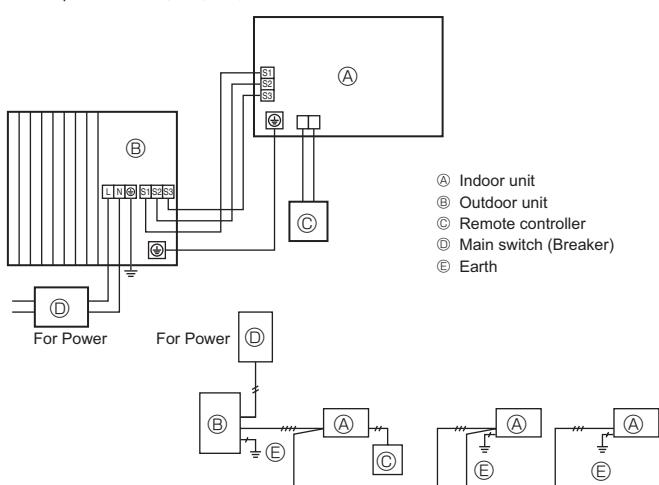

Fig. 6-1
### 6.1. Outdoor unit (Fig. 6-1, Fig. 6-2)
- ① Remove the service panel.
- ② Wire the cables referring to the Fig. 6-1 and the Fig. 6-2.
- ③ Except PEA-RP200, 250, 400, 500GA